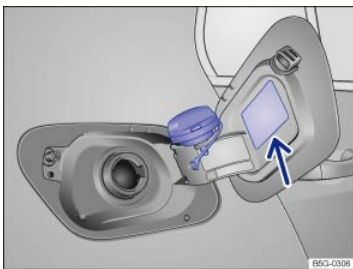

Fig. 156 Rear passenger side of vehicle: Fuel cap placed on the open fuel filler flap.
- Unscrew the fuel cap counterclockwise and remove. Use the slot on the fuel filler flap hinge ⇒ Fig. 156 to hold the cap while refueling.
The minimum required fuel grade for your vehicle ⇒ Fuel types is listed on a sticker on the inside of the fuel filler flap ⇒ Fig. 156 (arrow). This sticker may also be on the hinge of the fuel filler flap.
The minimum required fuel grade for your engine is shown on a sticker on the inside of the fuel filler flap ⇒ *Fig. 156*.